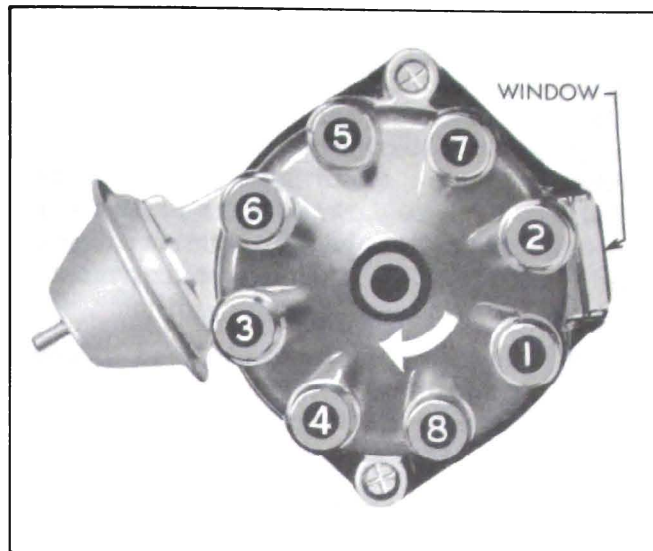

Figure 10-35—Installing Spark Plug Wires in Cap
5. Install distributor cap. Make sure that spark plug wires are correctly installed in distributor cap, through clips on rocker arm covers, and on spark plugs. See Figure 10-35.
No. 1 spark plug wire is installed in the first distributor cap tower after the adjusting window, moving in the direction of rotation. The other wires are then installed in a clockwise direction according to the firing order, 1-8-4-3-6-5-7-2. See Figure 10-35.